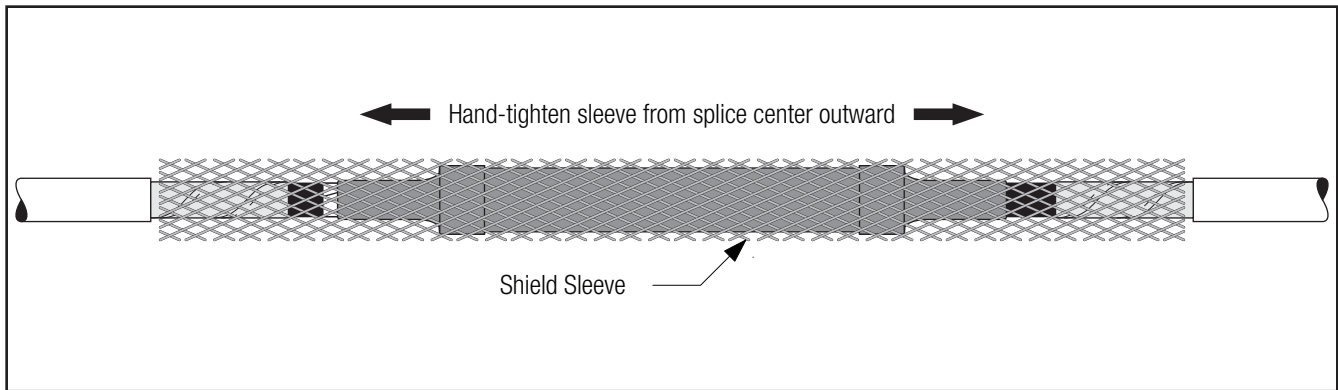

Figure 21
- 6.1 Center the expanded shield sleeve over splice body. Hand-tighten sleeve from splice center outward in both directions (*Figure 21*).